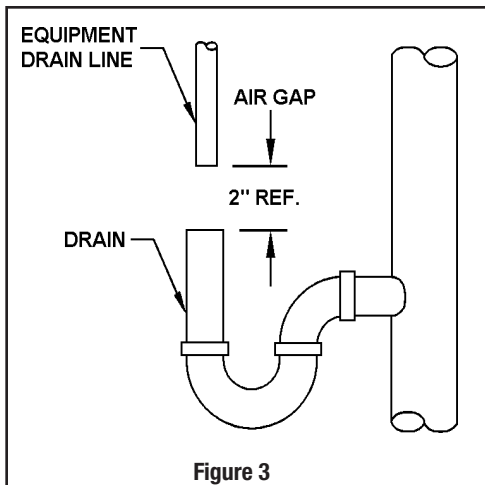

Figure 3
Step 8) Position the drain line over the drain and secure firmly. To prevent back-siphoning of sewer water, provide an air-gap of at least 2" or 2 pipe diameters between end of drain hose and drain (Figure 3). **DO NOT** raise drain line more than 10 ft. above floor.